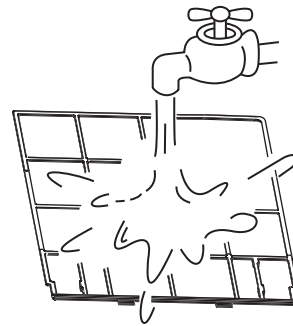

Fig.7-5
*The air-in side should face down when using water. (Refer to Fig. 7-5)*